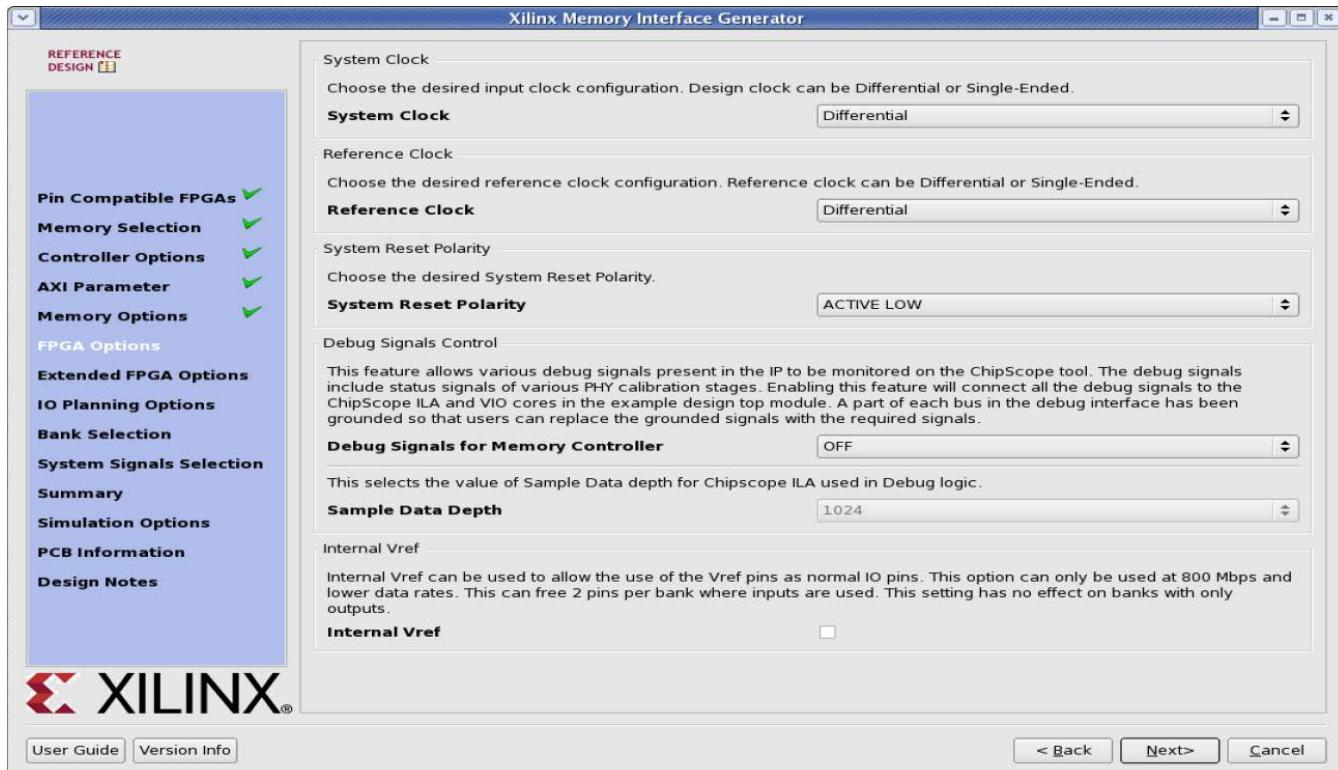

Figure 2-15: FPGA Options Page
Figure 2-15 shows the FPGA Options page.
- **sys\_clk** – This is the system clock input for the memory interface and is typically connected to a low-jitter external clock source. Either a single input or a differential pair can be selected based on the **System Clock** selection in the **FPGA Options** page (Figure 2-15). The sys\_clk input must be in the same column as the memory interface. If this pin is connected in the same banks as the memory interface, the MIG tool selects an I/O standard compatible with the interface, such as DIFF\_HSTL\_I or HSTL\_I. If sys\_clk is not connected in a memory interface bank, the MIG tool selects an appropriate standard such as LVCMOS18 or LVDS. The UCF can be modified as desired after generation.
- **clk\_ref** – This is the reference frequency input for the IDELAY control. This is a 200 MHz input. The clk\_ref input can be generated internally or connected to an external source. A single input or a differential pair can be selected based on the **System Clock** selection in the **FPGA Options** page (Figure 2-15). The I/O standard is selected in a similar way as sys\_clk above.
- **sys\_rst** – This is the system reset input that can be generated internally or driven from a pin. The MIG tool selects an appropriate I/O standard for the input such as LVCMOS18 and LVCMOS25 for HP and HR banks, respectively. Default polarity of **sys\_rst** pin is active-Low. Polarity of **sys\_rst** pin varies based on "System Reset Polarity" option chosen in **FPGA Options** page (Figure 2-15).